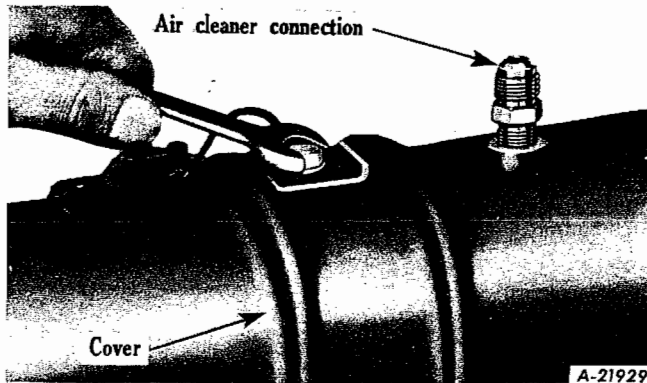

Fig. 5
1. Remove three capscrews from rocker-arm cover. Remove air cleaner line and remove cover (Fig. 5).